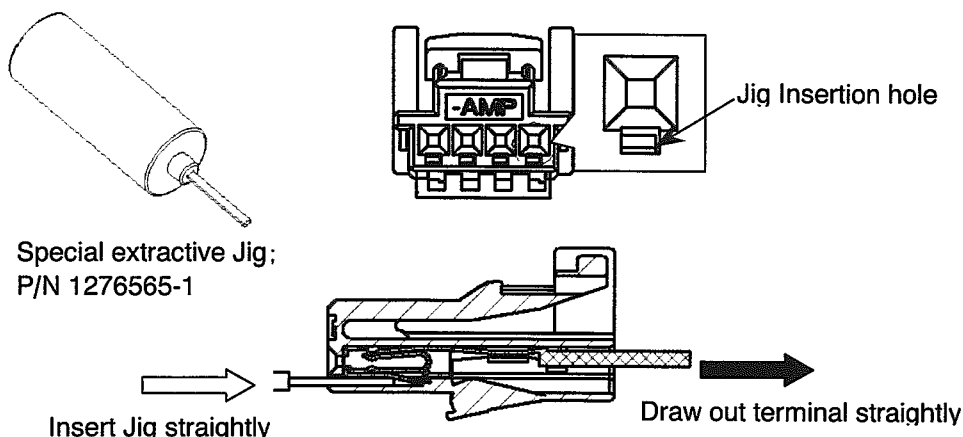

Fig.12
- ① Insert the special extractive jig (Part number: 1276565-1) into the proper hole to the end.
- ② Remove the loaded terminal from housing while the crimped wire. See Fig.12